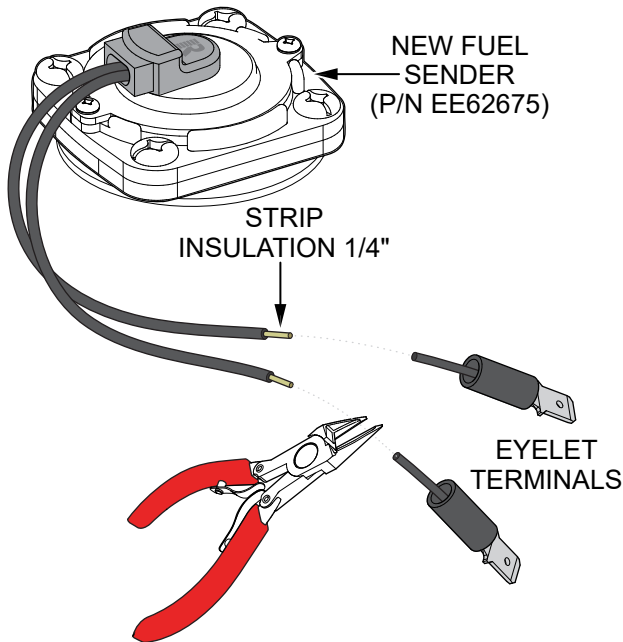

Figure 8. Cut And Strip Fuel Sender Wires
8. Cut off the **eyelet terminals** from the ends of the two wires extending from the top of the **new fuel sender (P/N EE62675)**. See Figure 8.
9. Strip the insulation back 1/4 inch (6 mm) from the ends of the fuel sender wires to expose the conductors. See Figure 8.